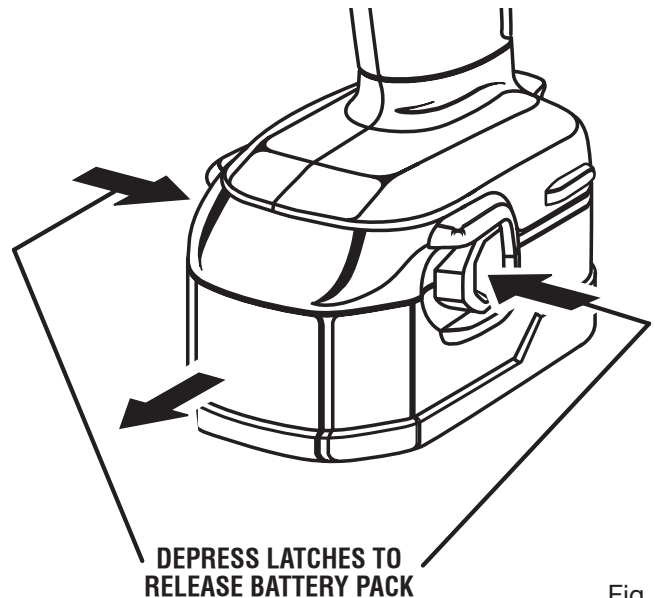

Fig. 5
- Place battery pack in the drill. Align raised rib on battery pack with the groove inside the drill. *See Figure 5.*
- Locate latches on side of battery pack and depress to release battery pack from the drill. *See Figure 5.*